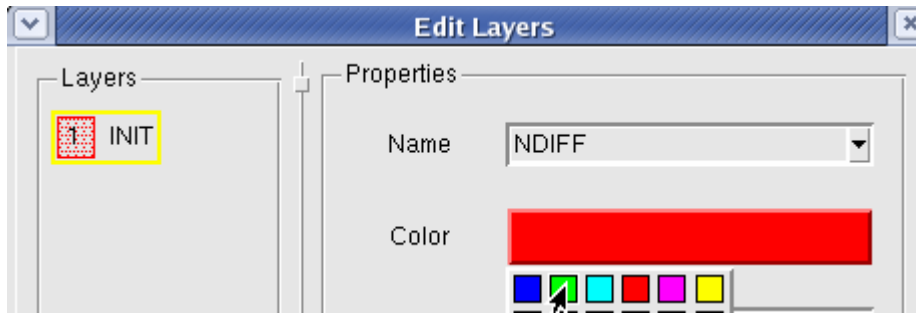
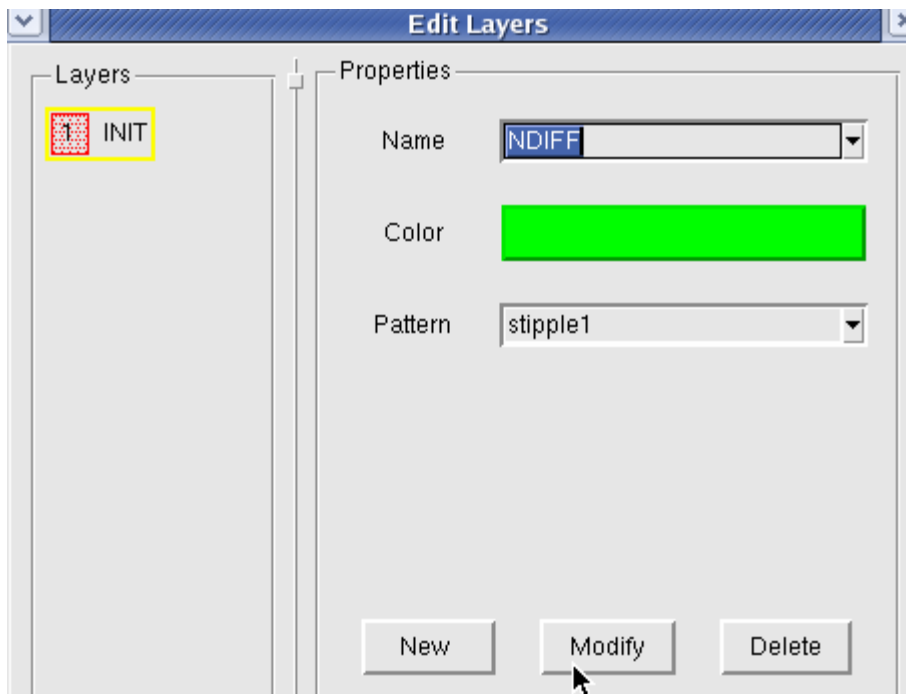
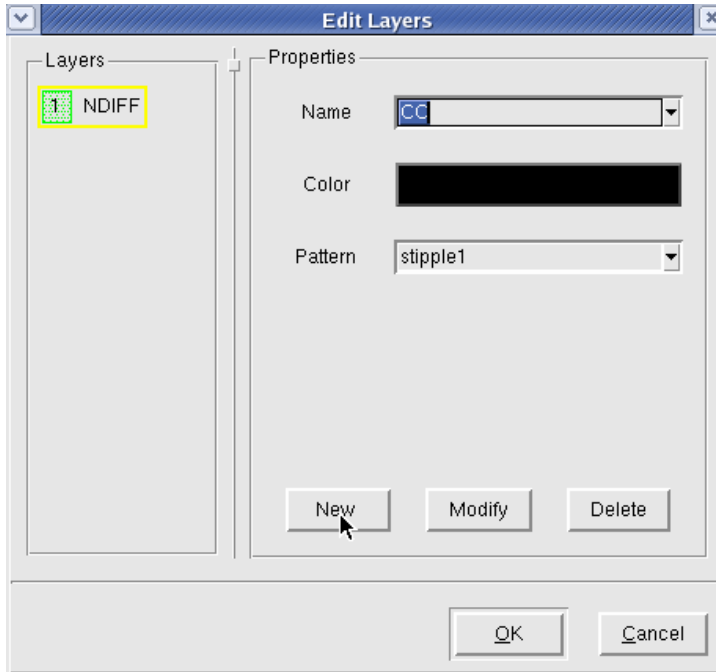
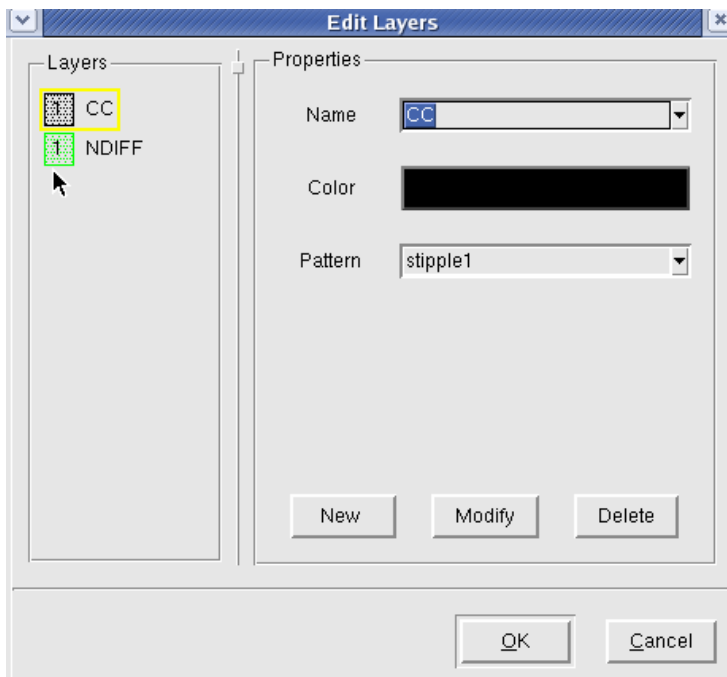

Figure 11: Changing the Layer name to NDIFF.
Figure 12: Changing the Color of the NDIFF Layer.
Figure 13: Adding a Contact or Via Layer (CC).
Figure 14: Results of adding the CC Layer.
- b. In the Edit Layers pop-up change the name of INIT to NDIFF (Figure 11), and the color of NDIFF to green (Figure 12). Click on **Modify** to update your changes (Figure 12).
- c. In the Edit Layers pop-up change the name of NDIFF (Figure 13) to CC, and the color of Black to green (Figure 14). Click on **NEW** to update your changes (Figure 12). Repeat this for the M1 layer to be blue.